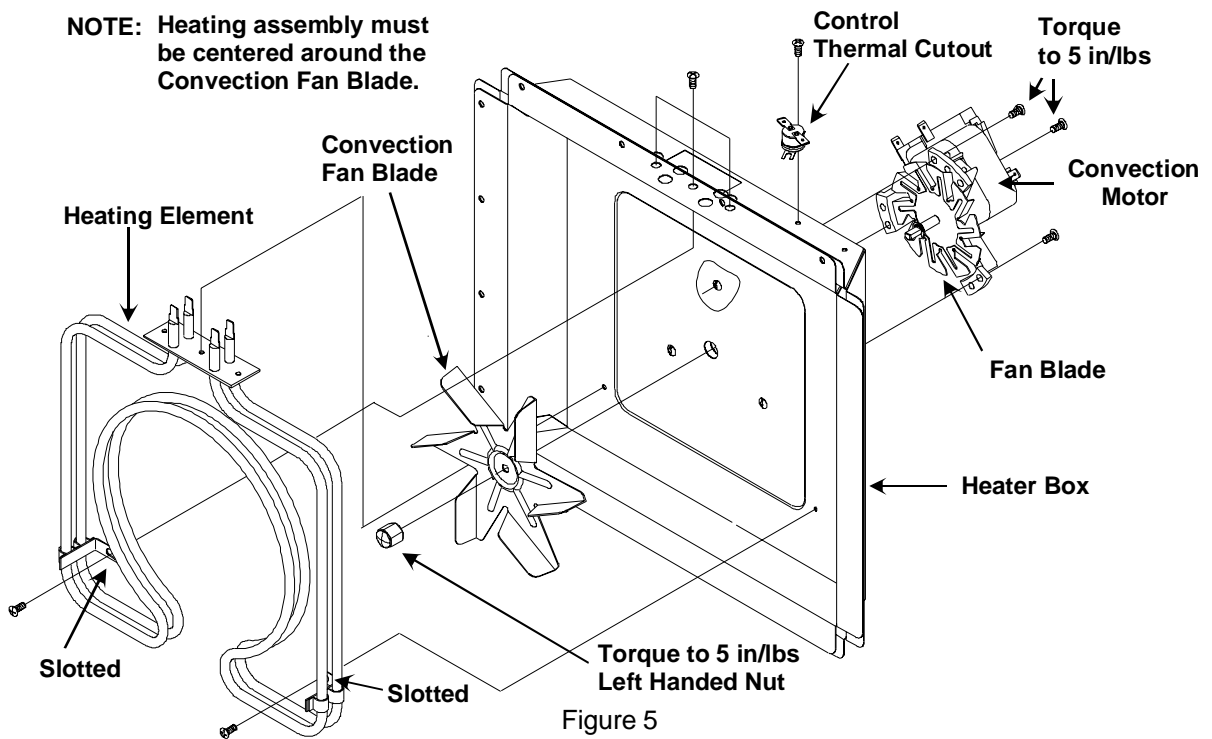

Figure 5
1. See “Component Location” Figure 5, for location.